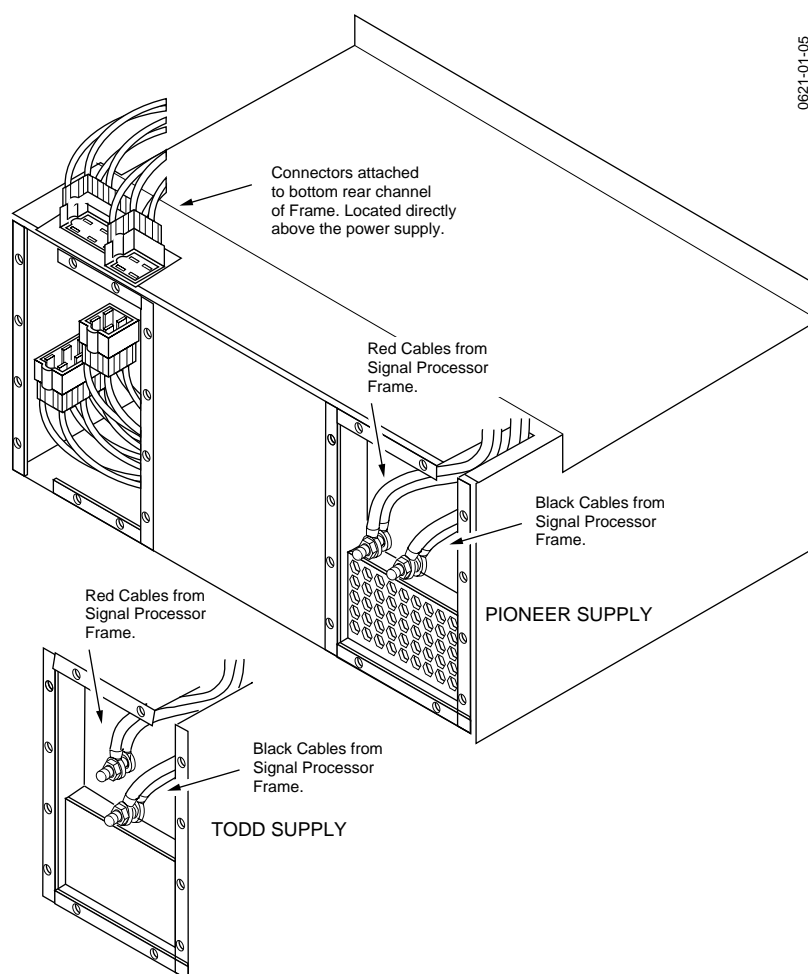

Figure 2-19. Frame Power Supply Connections.
12. Refer to Figure 2-19. Connect the two large black cables running down from the right rear of the Signal Processor Frame to the right (Pioneer) or bottom (Todd) stud. If you are only installing a primary supply, secure with the nut and lock-washer removed previously. Torque the nut to 80 *inch/pounds* (6.67 *foot/pounds*) \pm 5%.